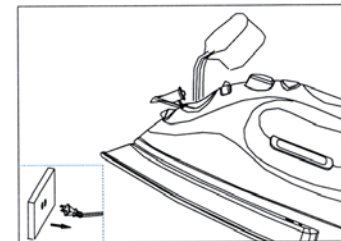

Fig. 1
1. Open the water filling inlet cover. Holding the iron at a slight angle, pour water slowly into the water filling inlet. (Fig. 1) Fill tank to desired level or to the "MAX" water level marking using the water filling flask. (When the iron is upright, the see-through water tank allows you to gauge the amount of water.) **DO NOT** overfill the tank. When finished filling the iron with water, close the water inlet cover before continuing.